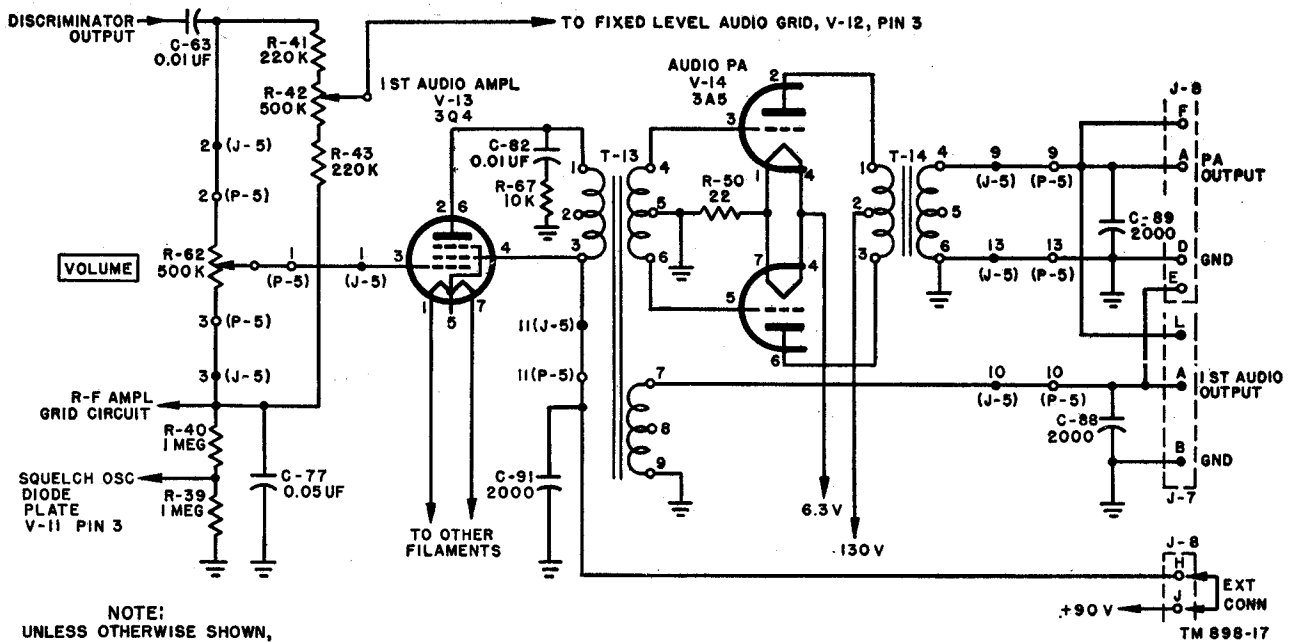

Figure 17. First audio amplifier and audio power amplifier circuits, functional diagram.
25. First Audio Amplifier V-13 (fig. 17)
a. The first audio amplifier stage uses a type 3Q4 pentode tube V-13 in Class A audio amplifier circuit with transformer output. The output of the discriminator is brought to the grid (pin 3) of V-13 through low-pass filter R-36 and C-81 (fig. 15), through coupling capacitor C-63 (fig. 17) and VOLUME control R-62 and pins 1 of chassis connectors P-5 and J-5. Low-pass filters R-36 and C-81 serve to block h-f noises from the input of the amplifier. The VOLUME control, located on the front panel, is connected into the circuit through pins 2, 3, and 1 of chassis connectors P-5 and J-5.
26. Audio Power Amplifier V-14 (fig. 17)